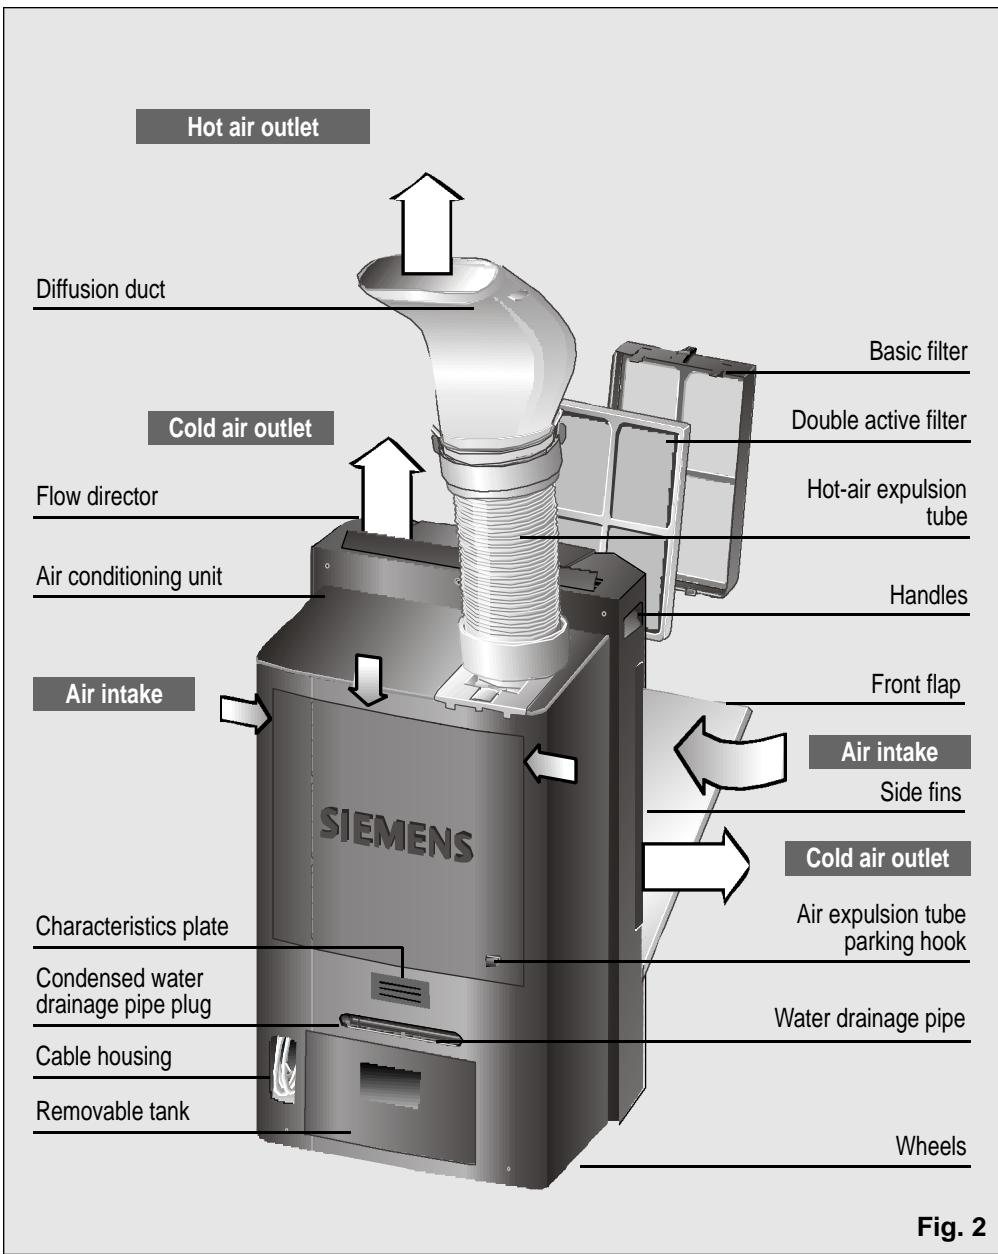

Fig. 2
- There is a cavity at the back of the appliance to house the mains electricity supply cable. See **Fig. 2**.